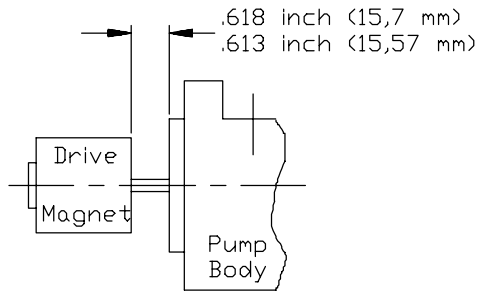

Figure 8
2.10.8.2 Set driven magnet (8) to height shown in Figure 8.